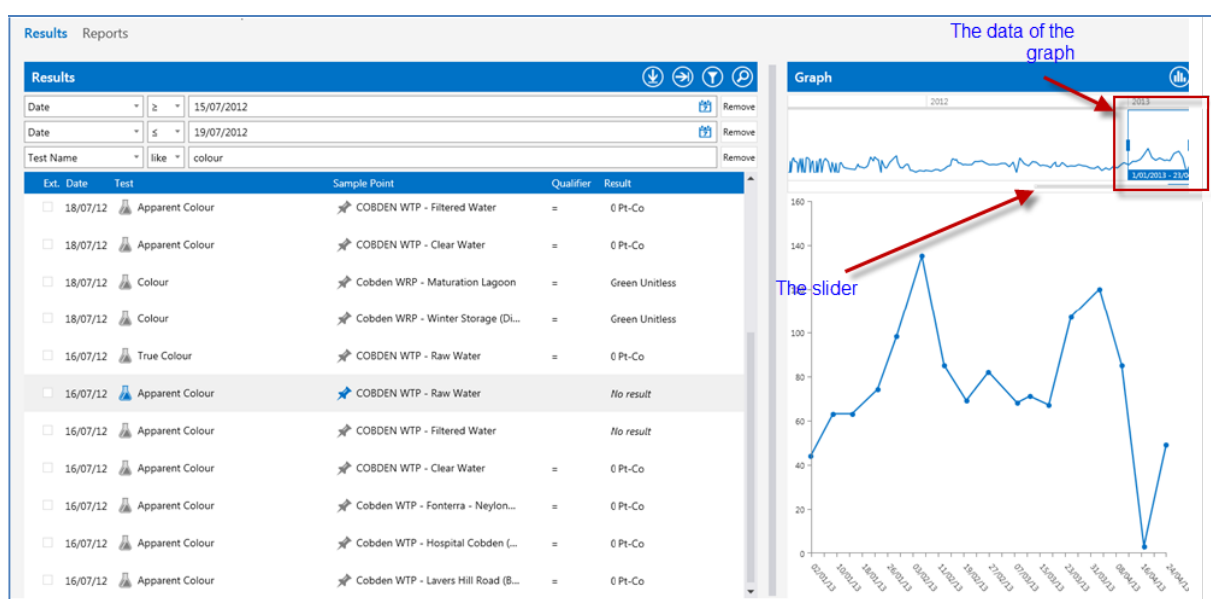

Figure 1: *The Aquantify data entry screen*
- 1. Graphing trends.** When an Operator clicks on a test, two graphs for that test appear (Figure 1). One is a graph and one is a timeline. The timeline has a slider that the Operator can move to see the entire history of data entered. There is also a box around the data which is represented on the graph and you can move the box to have historical data appear on the graph if detail is needed.